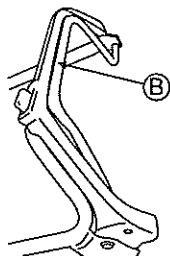

Fig. 18.
4 Push Drive clutch lever (B) forward to start mowing. (See Fig. 18.)